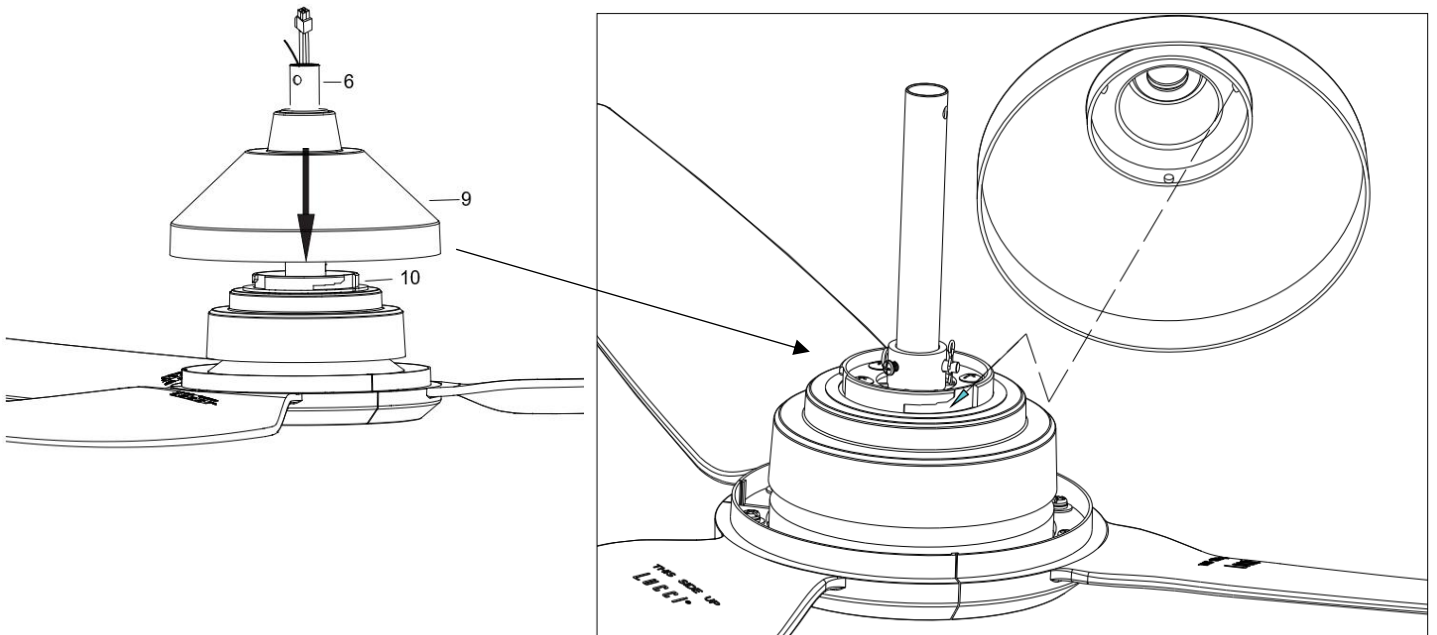

Fig. 5.4
6. Insert the decorative cover (9) onto the down rod (6) to cover the down rod coupling housing (8). (Fig. 5.4)
Finally attach the decorative cover (9) to the fan assembly (10), secure it by pushing the stuck-point of decorative cover onto the slot of fan assembly, and turn it clockwise. (Fig. 5.4)